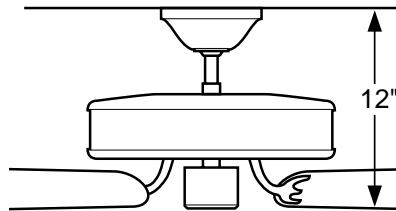

Figure 1b - Standard Mounting
**Standard Mounting** (Figure 1b) hangs from the ceiling by a connector pipe (included), for ceilings 8 feet or higher. For ceilings higher than eight feet, you can purchase Hunter extension rods. All Hunter fans use sturdy 3/4" diameter pipe to assure stability and wobble-free performance.